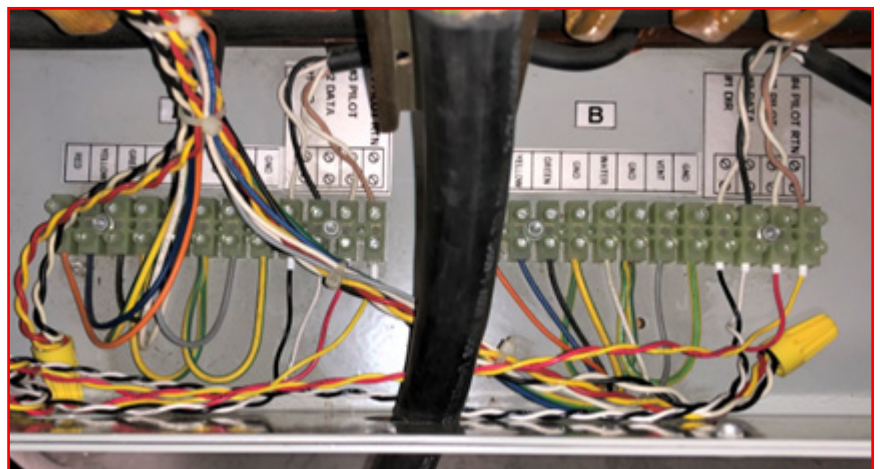

Figure 19 X1 Cable Connected to Channel B of TB1 for Communication Connections in DVS100/DVS150 Charger
18. Connect the X1 cable from the X1 connector on the CAN board to TB1 (of Channel B) in the DVS100/DVS150 charger (Figure 19), as listed below.
Twisting wires (Figure 19) is recommended for longer distances. Keeping them close together, however, is more important than twisting them.